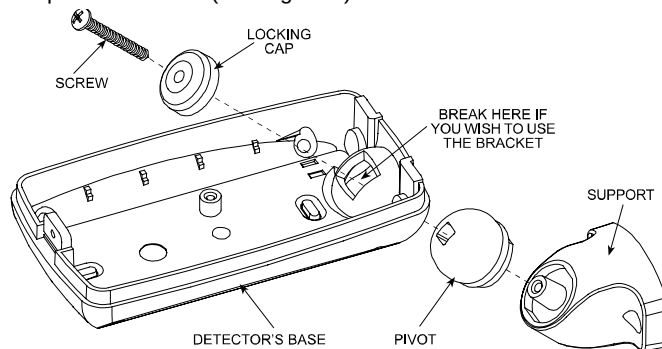
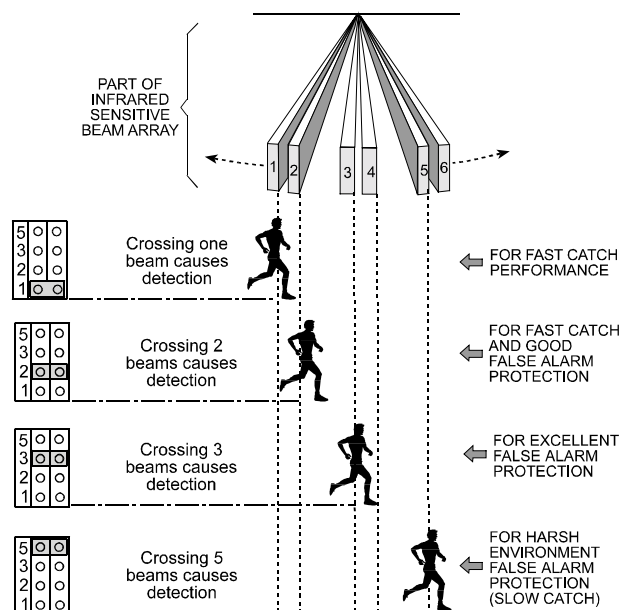

Figure 5. Attaching the Bracket
Figure 10. Pulse Counter Setting Options
- 3rd. Punch out the large knockout in the round bulge at the top part of the base (see Figure 5)
- 4th. Assemble the bracket as shown in Figure 5.
The location of the pulse count selector is indicated in Figure 5. Refer to Figure 10 below and mount the jumper as desired.